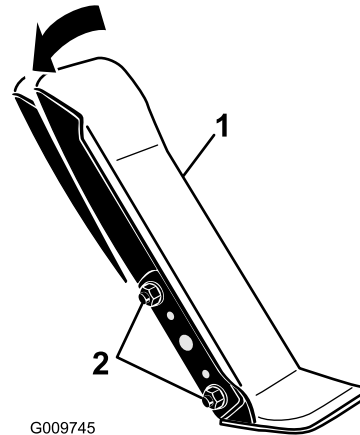

Figure 57
1. Loosen the 2 nuts and bolts securing the left side of the traction pedal to the bracket (Figure 57).
2. Pivot the pedal to the desired operating angle and tighten the nuts (Figure 57).